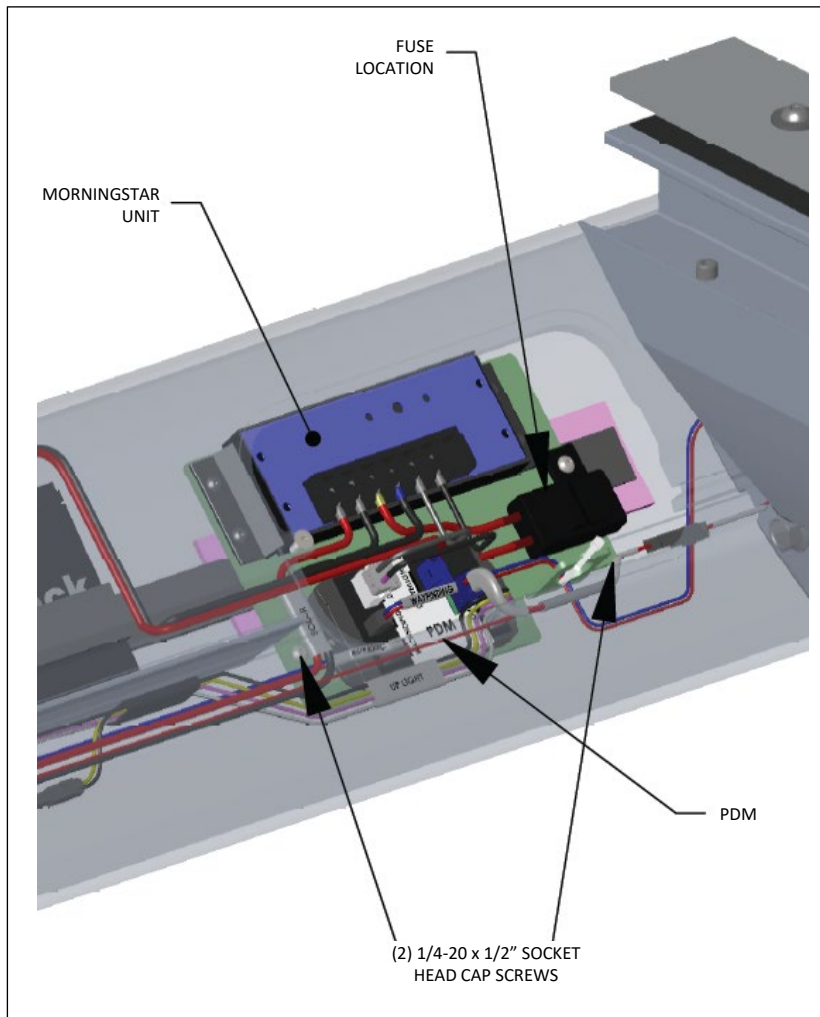
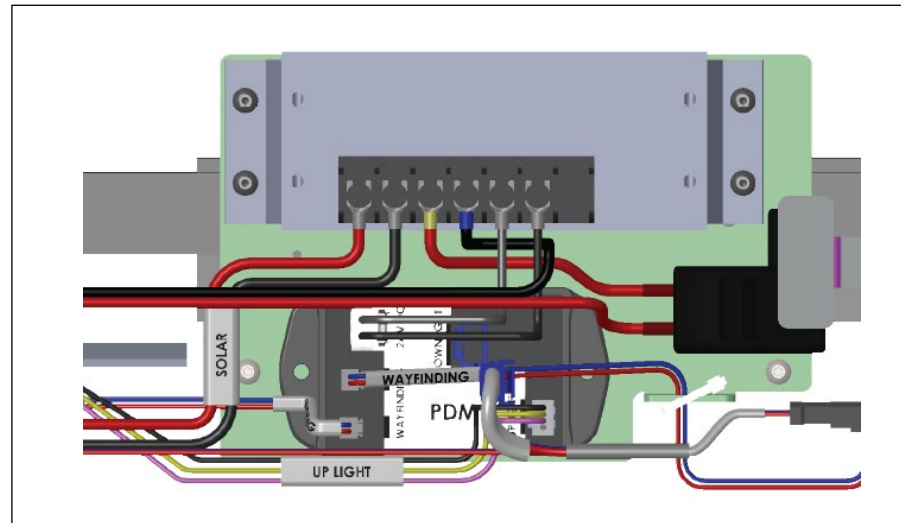

Fig. F13 – Install driver plate assembly, front right access hole
Fig. F14 – solar wiring connections
9. Driver plate assembly: Attach driver plate to front horizontal beam, in the front right access location, see Fig. F13.
10. Make connections to PDM as labeled: Uplight, Wayfinding (x2), Downlight, see Figs F14 and F15. Make connections to Morningstar unit, in the order noted on the device. When all of the wiring connections are complete, install the fuse, see Fig. F13.